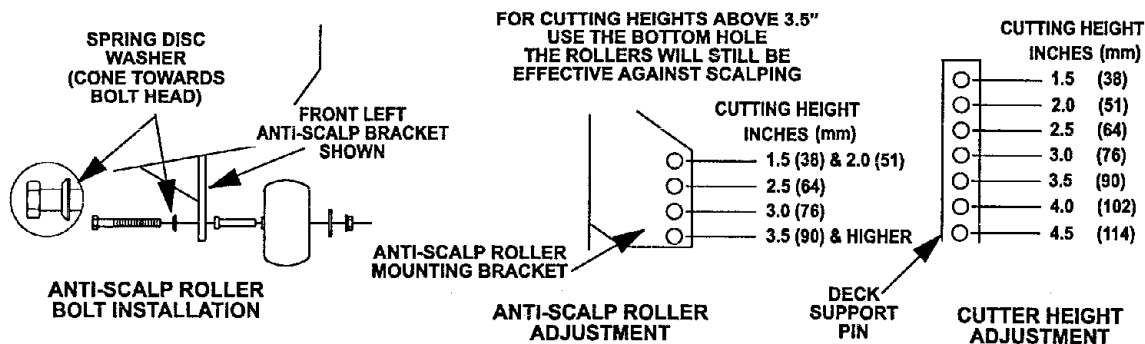

FIG 11
- a) Install hairpin clips in the holes shown on sketch below for the desired cutting height (See Figure 11).
- b) Adjust anti-scalp rollers For Normal Operating Conditions. Stop engine. Place rollers in one of the positions shown in Fig. 11. **For Maximum Deck Flotation**, place rollers one hole position lower. Rollers should maintain 1/4 in. (6.4 mm) minimum clearance to ground. **Do Not** adjust rollers to support the deck. Be sure roller bolts and nuts are installed with the spring disc washer between head of the bolt and mounting bracket. **Torque to 40-45 ft-lbs., or loss of roller may result.**
- c) When operating in extremely rough conditions it may be necessary to position the anti-scalp rollers one or two holes higher than described in "b" to prevent damage to the rollers and/or bolt failure (See Figure 11).